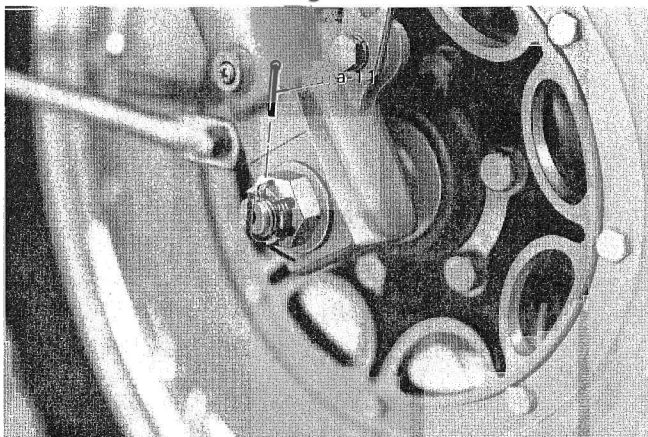

Fig. 16
12. Lock the wheel shaft nut with the cotter pin (a-11) contained in vinyl bag (1). (Fig. 16)